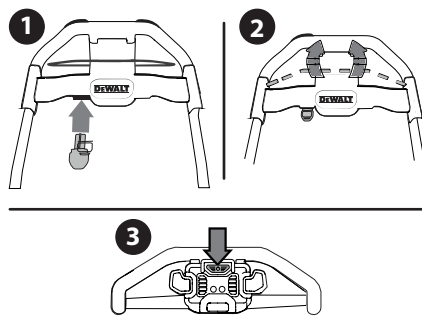

Figure 11
1. Insert the safety key (a) into lower edge of the upper handle until it snaps in place (Figure 11).
To engage the auger and start throwing snow, squeeze the auger control bail against the upper handle and press the start button. Release the auger control bail to stop the auger (Figure 11).
1. Release the auger control bail to stop the motor and auger (Figure 11).